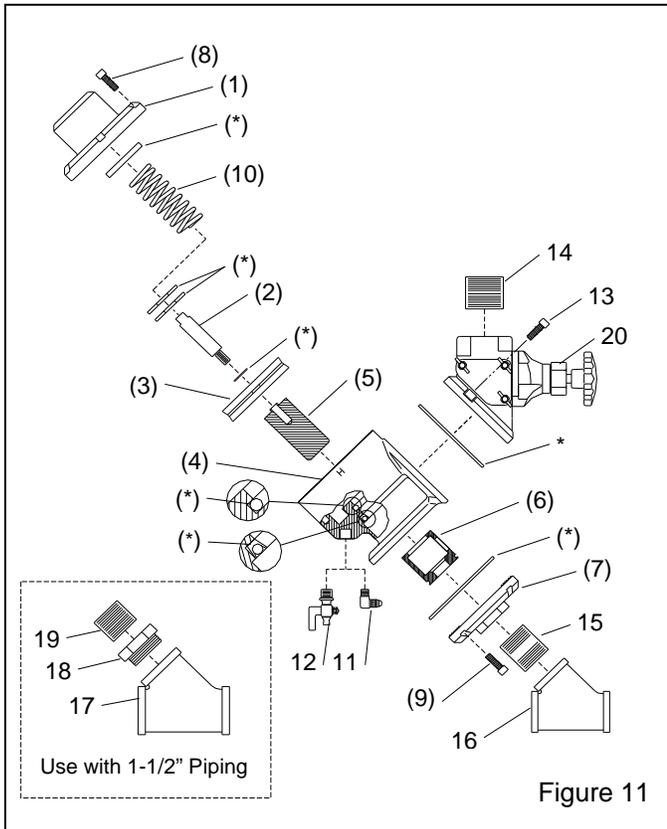

Figure 11
6.4 AQV-H Auto Quantum Actuator, Figure 11